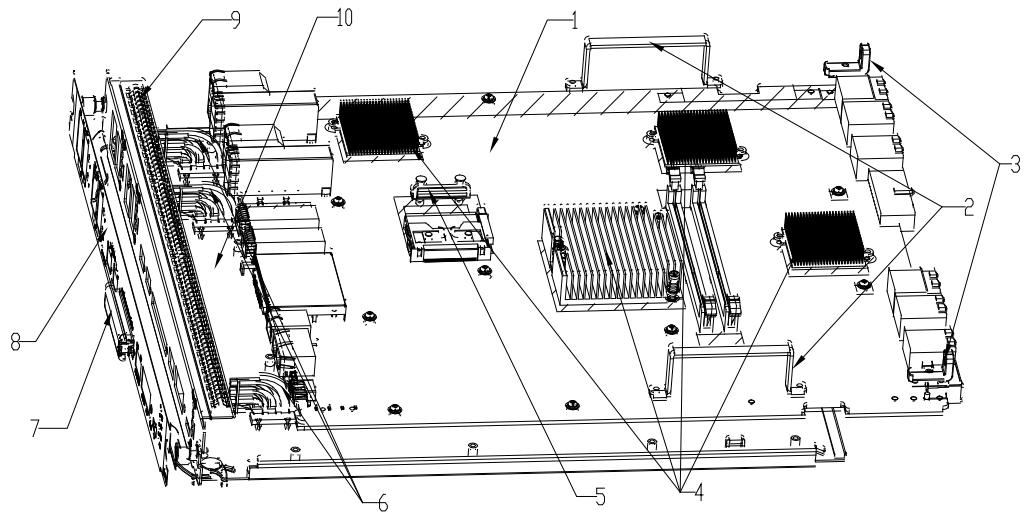

Figure 1 Explode View of the Front Panel
10. All the steps above see Figure 1. Remove the battery from pcb 1, and the detail steps as below: